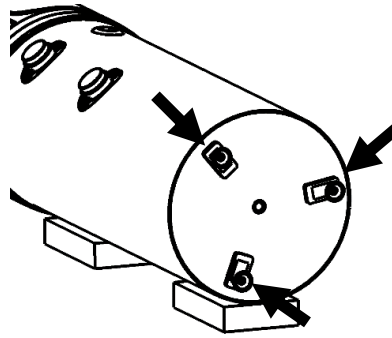

Fig. 2c;
- Mount the adjustable feet directly to the appliance; * Fig.2c